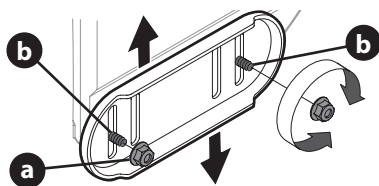

Figure 41
1. Loosen four hex nuts (a) (two on each side) and carriage bolts (b). Move skid shoes to desired position (Figure 41).
NOTE: The skid shoes on your snow blower may look slightly different (and have different hardware) than ones shown in Figure 41.